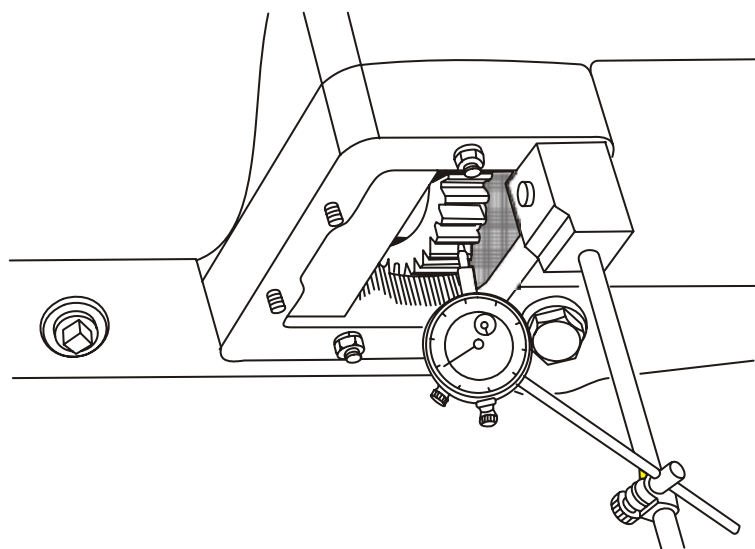

Figure 10 Checking PTO Adaptor to Transmission Backlash
- Install a dial indicator onto the adaptor housing with the dial indicator plunger resting squarely on the adaptor gear (see Figure 10).